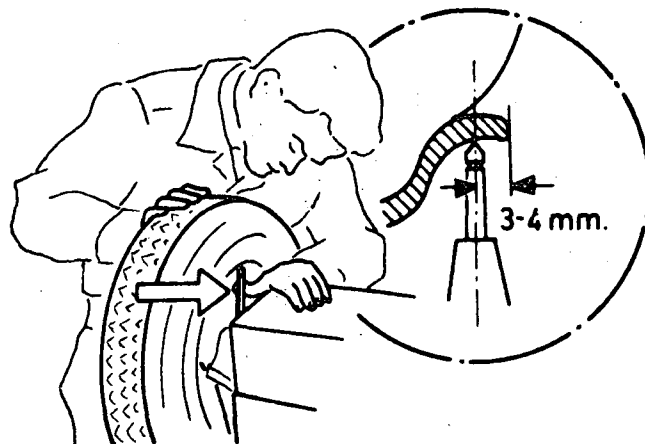

Fig. 3
f) Mount the unit on the axle of the machine (fig. 3).